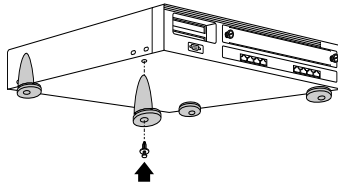

Figure 3: Installing the Rubber Feet
2. Use the plastic screws provided to attach the four rubber feet to each marked location on the bottom of the chassis (Figure 3).